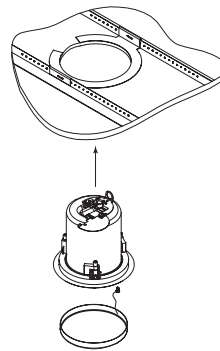

Figure 16: Mount speaker into ceiling
Step 5: Mount the Speaker Into the Ceiling (Figure 16)